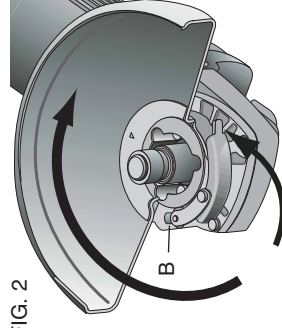

FIG. 2
1. Open the guard latch (A) and align the arrow on the guard with the arrow on the gear case.
3. With the guard latch open, rotate the guard into the working position providing maximum protection to the user (Fig. 2).
4. Close the guard latch to secure guard on gear case (Fig. 2).
3. With the guard latch open, rotate the guard until the arrows are aligned. (Fig. 2).